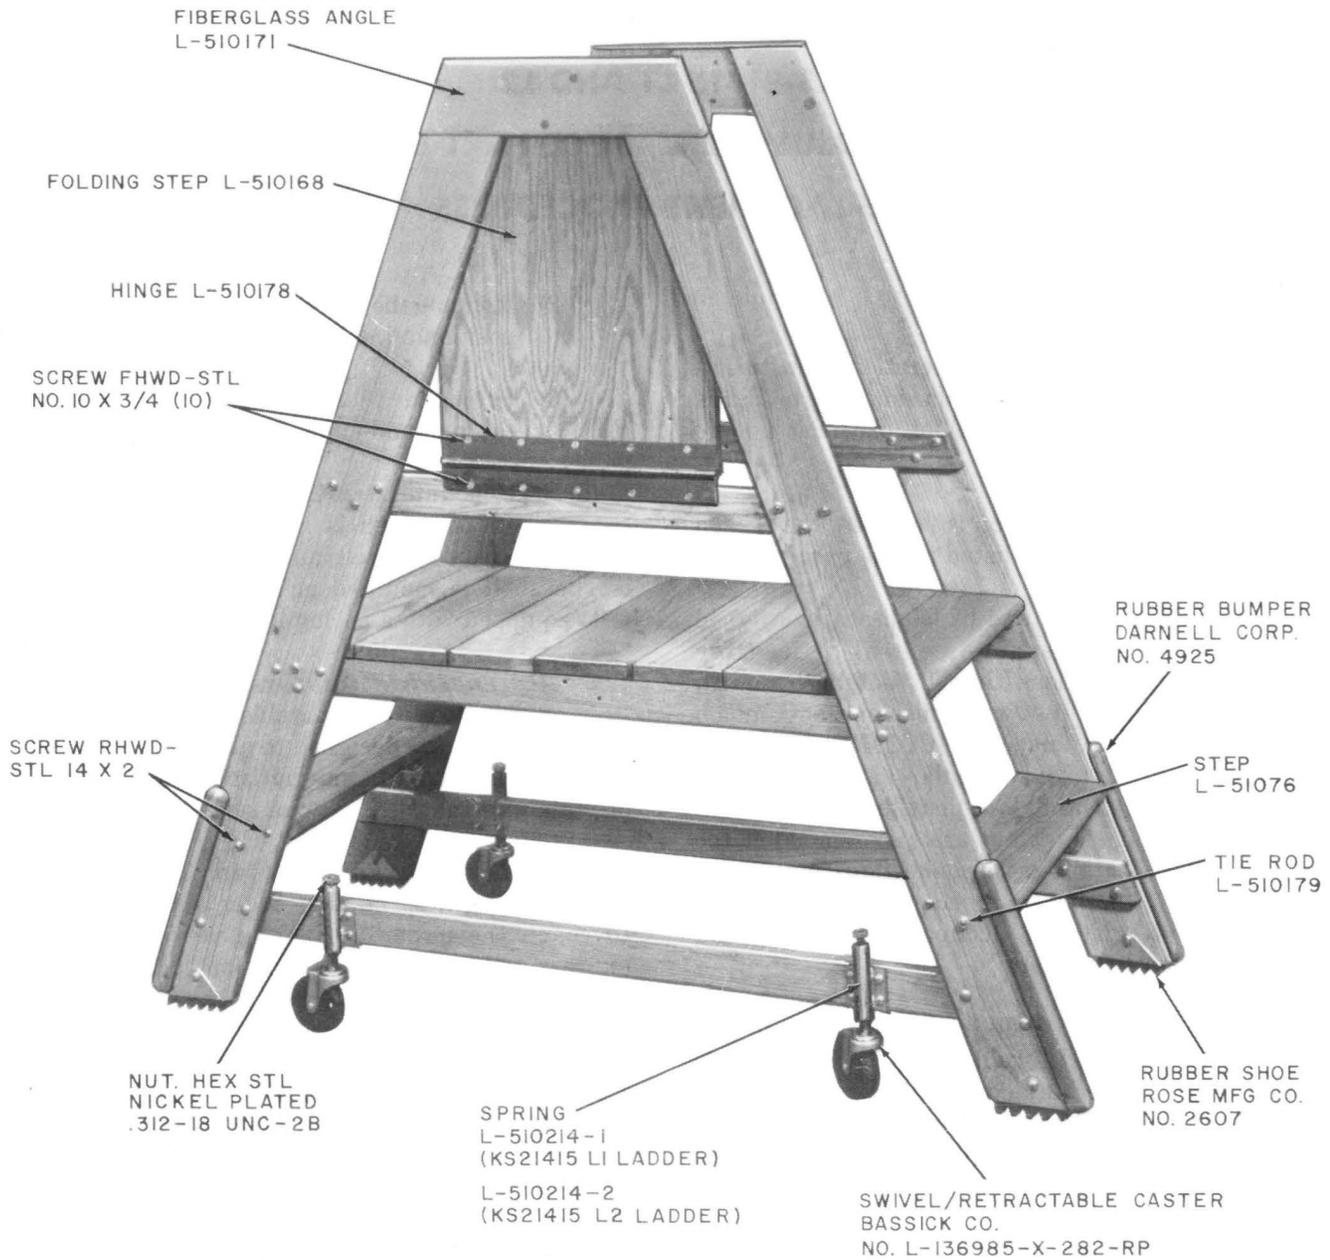
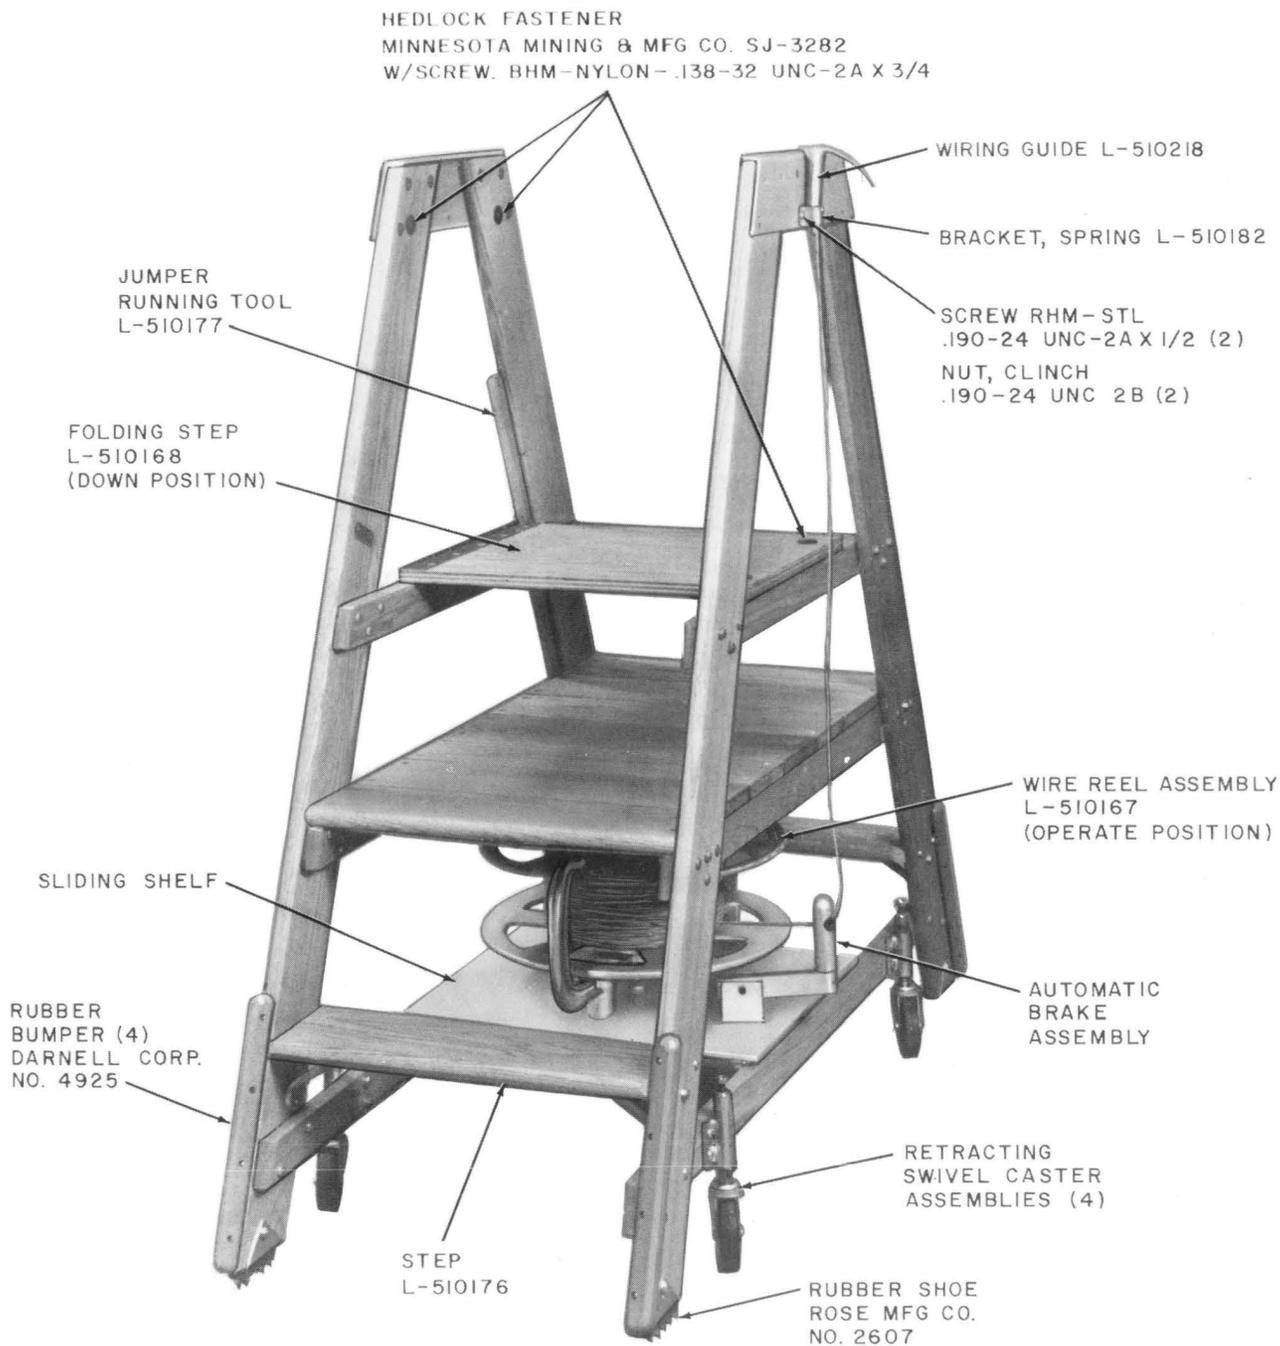

Fig. 1—KS-21415 L1 Rolling Platform Ladder (Folding Step Stored Position)
Fig. 2—KS-21415 L2 Rolling Platform Ladder (Wire Reel Operate Position)
1.04 The KS-21415 ladder is available in two models. The L1 ladder (Fig. 1) is the basic configuration. The L2 ladder configuration (Fig. 2 and 3) includes the basic ladder with a horizontally mounted wire reel assembly, wire guide, and jumper running tool.
(Fig. 2). The sliding shelf is mounted on the extendable runners and secured centrally under the ladder platform with a spring-loaded locking pin. The shelf extends out for the convenience in replacing the coil of wire. To load the wire reel assembly, proceed as follows.
4.01 The KS-21415 L1 (Fig. 1) is the basic ladder without accessories but with the following replaceable parts: Rubber shoes, rubber bumpers, casters, caster springs, steps, tie rods, and folding
4.05 The KS-21415 L2 rolling platform ladder (Fig. 2) consists of a basic L1 ladder plus a wire reel assembly (Fig. 5), a wire guide, and a jumper running tool with fastening hardware (Fig. 2 and 3).